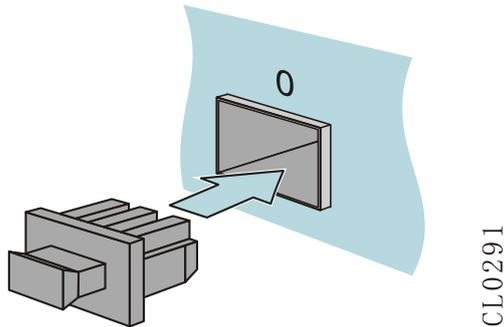

Figure 4-18 Install the dust cap of the optical interface
- If the optical interface is not inserted with the SFP module, cover the dust cap of the optical interface. The dust cap of the optical interface is delivered with the router. The dust cap of the optical interface is installed, as shown in Figure 4-18.